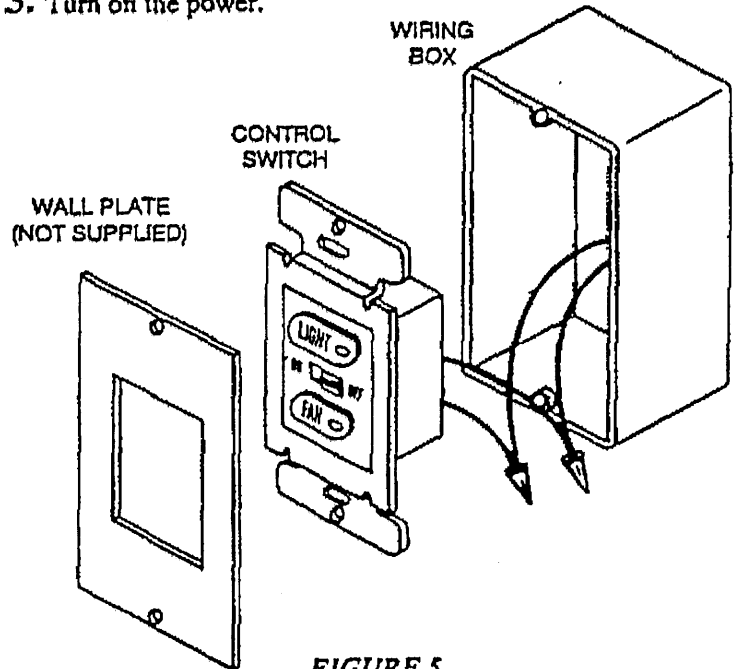

FIGURE 5
1. Remove the wall switch from the wiring box, disconnect the wires, and set aside the wall switch and over plate which will no longer be needed. Set "OFF/ON" slide switch of the control switch to "OFF" position. Connect the two power wires to the wires on the control switch. See Figure 5. Attach the control switch to the box by using the screws provided.
2. Install rocker switch wall plate as shown in Figure 5. Slide switch to "ON". The rocker switch wall plate is not supplied and must be purchased separately.